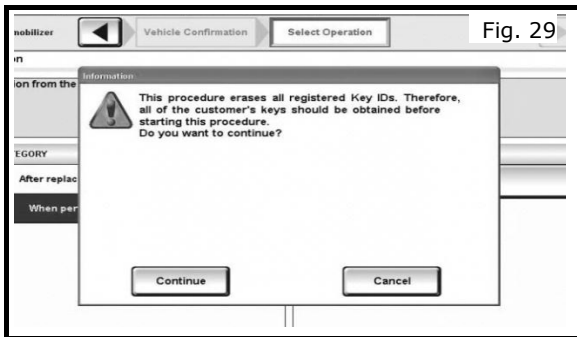

Fig. 29
- a) Follow the CONSULT III plus prompts as shown in Fig. 29.